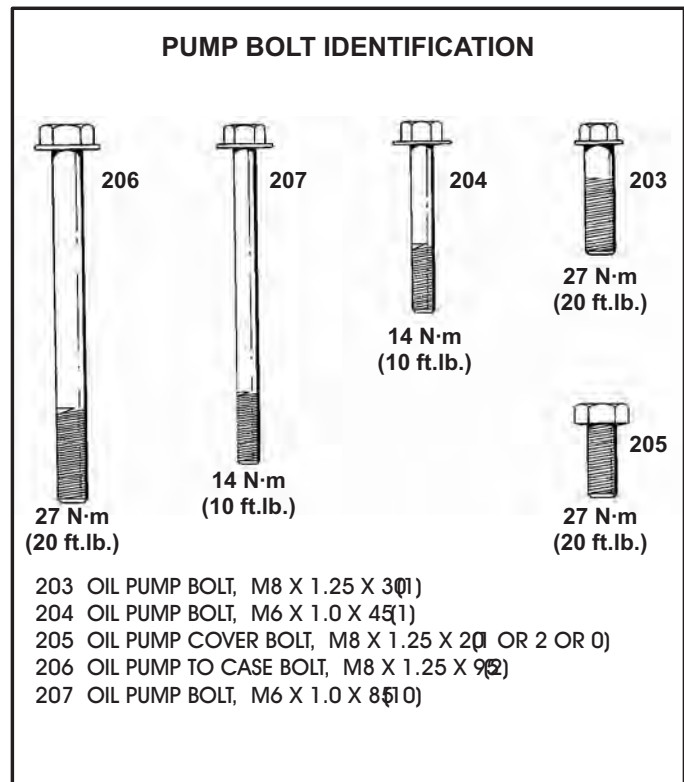

Figure 209
86. Torque oil pump bolts marked 204 and 207 to 14 N·m (10 ft.lb.), beginning in the center and working in a spiral pattern. Refer to Figure 209 for bolt identification.